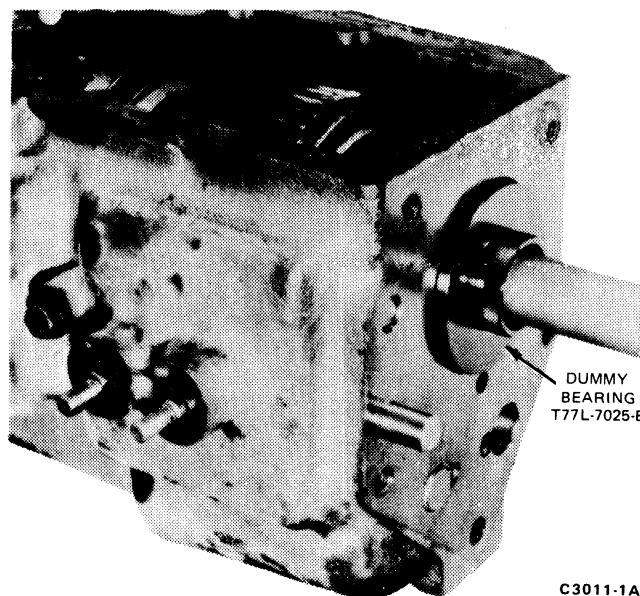

FIG. 14 Dummy Bearing Installed
30. Position the dummy bearing, Tool T77L-7025B, or equivalent on the output shaft to support and align the shaft assembly in the case (Fig. 14).